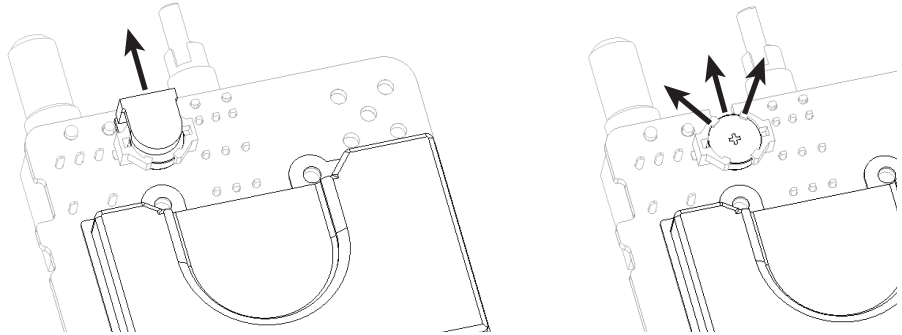

Figure 33. Remove the Backup Battery
2. Remove the backup battery retaining clip by sliding it away from the main circuit board, as shown in Figure 33.